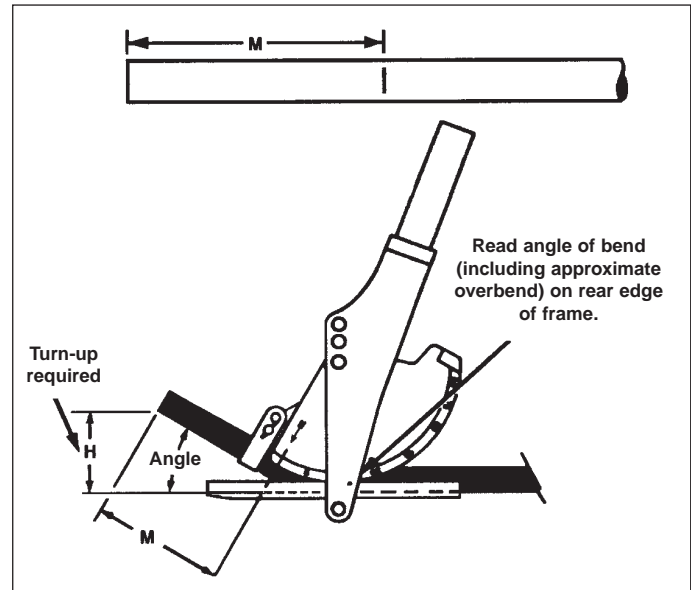

Figure 3
2. Using desired kick dimension in (H) column, obtain measurement (M) under the angle of bend desired.
3. Mark off measurement (M) on thinwall as illustrated in Figure 3.